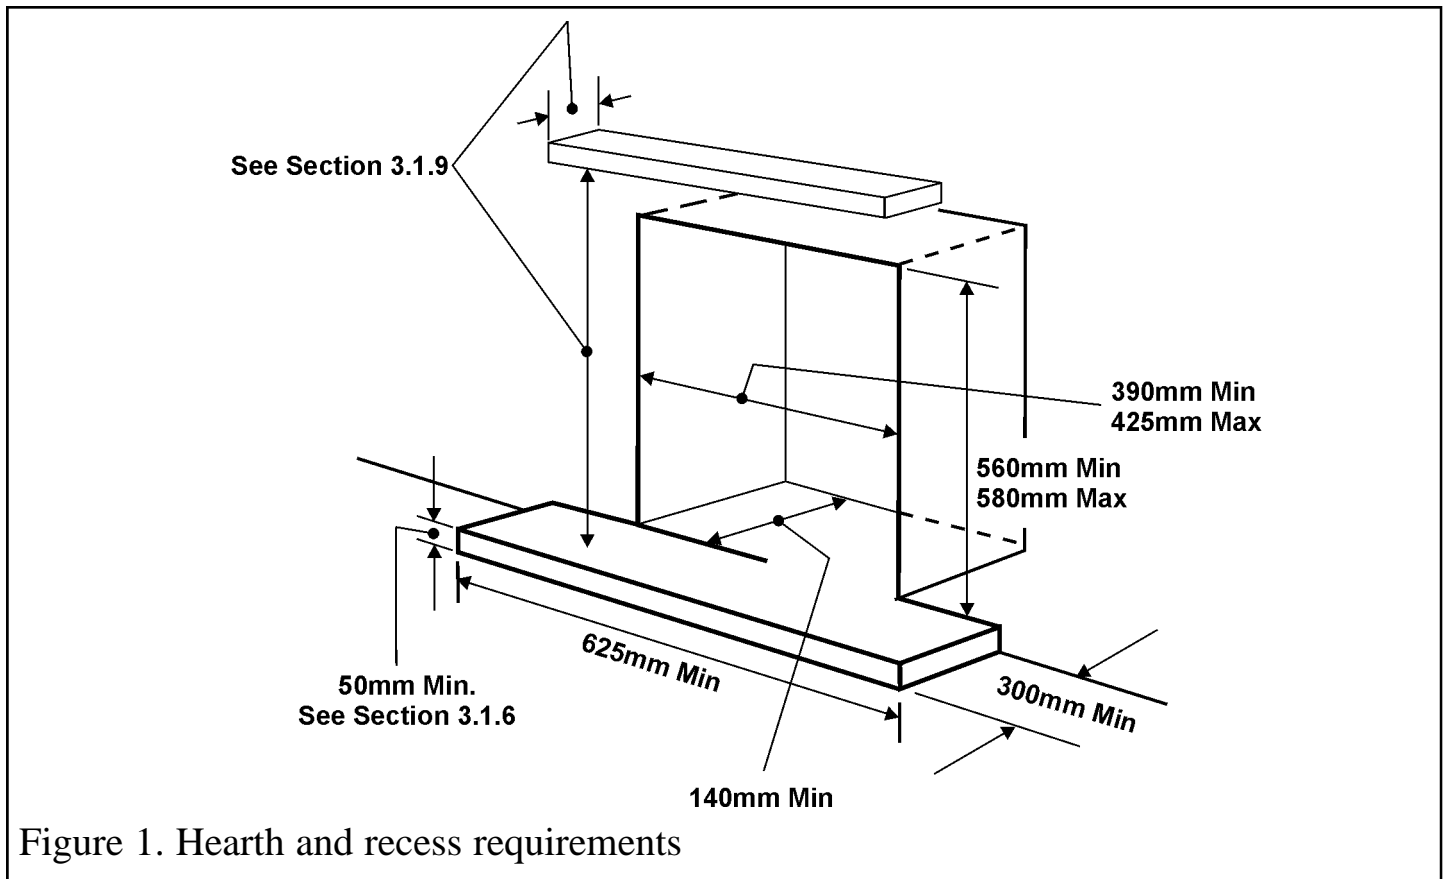

Figure 1. Hearth and recess requirements
3.1.6 This appliance must be mounted with a non-combustible hearth unless the conditions of section 3.1.8 are met (See figure 1) (N.B. conglomerate marble hearths are considered as non-combustible). The fire box must be mounted on a non-combustible surface level with the hearth. The hearth must project at least 300mm forward of the fire box front and be at least 625mm wide (see illustrations in “wall preparation” section). The hearth material must be at least 12mm thick. The periphery of the hearth (or fender) should be at least 50mm above floor level to discourage the placing of carpets or rugs over it. The surface of the hearth must be sufficiently flat to enable the bottom of the front casting / firefront to be aligned horizontally. Any excessive unevenness (uneven tiles, Cotswold stone, etc.) should be rectified.
shown in figure 1.
- It is recommended that a hearth should be installed as in section 3.1.6 and figure 1.